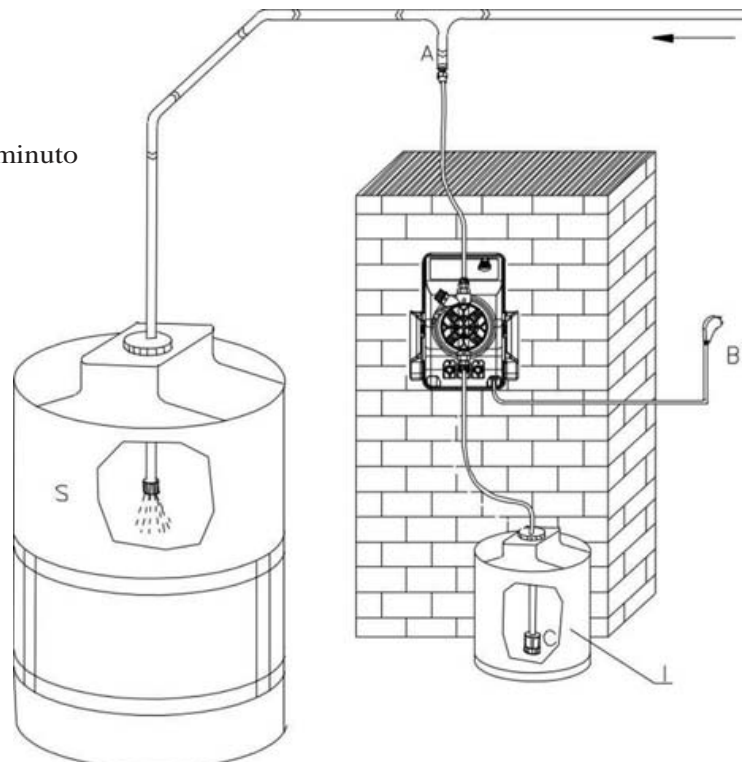

Fig.13
6.2 - SCHEMA DI IMPIANTO TIPICO (Fig. 13)